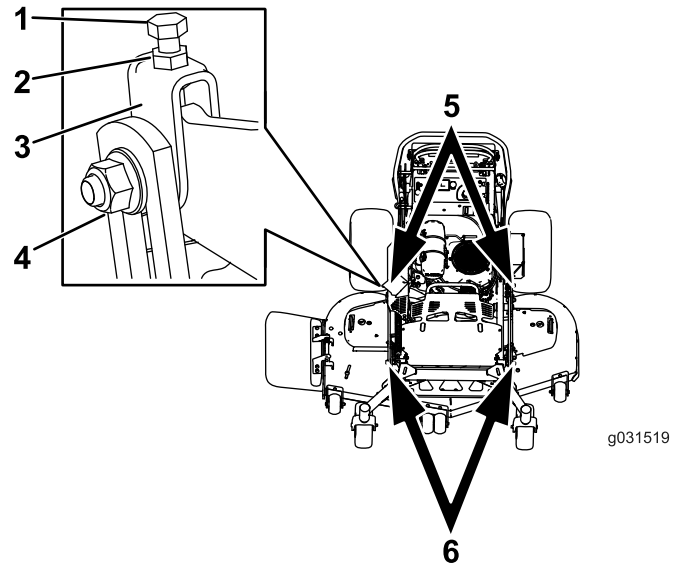

Figure 84
1. Loosen the jam nut and side bolt in the yokes that you want to adjust (Figure 84).
- Rotate the top bolt of the yokes to adjust the height of the mower deck (Figure 84).
- If the measurement is not correct, locate the front 2 yokes on the machine (Figure 84).